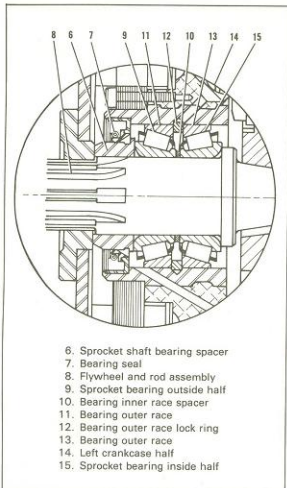

Figure 3-37. Sprocket Shaft Bearing Assembly -
Install flywheel side outer race snap ring (12) in case. When properly installed, oil hole in snap ring groove will be centered in snap ring gap. Use arbor press and Outer Race Press Plug, Part No. 97194-57 to press outer race parts into crankcase bushing one at a time as shown in Figure 3-37. Press the races into the case, one from each side, with widest ends outward to match taper of bearings. Be sure each race bottoms on the snap ring.
Before loosening tool, check to see that the bearing is not preloaded by shaking crankcase half and feeling for a slight amount of play of crankcase half on bearing. Note: If there is no noticeable shake, or if flywheel assembly does not rotate freely in bearing, disassemble bearing and add a .003 Shim, Part No. 23741-55, on one side of inner race spacer (10, Figure 3-37). Again install bearing with tool and recheck for slight play in bearing.
Install spacer (6, Figure 3-36). Press seal (7) into crankcase with lip toward outside (see Figure 3-37).